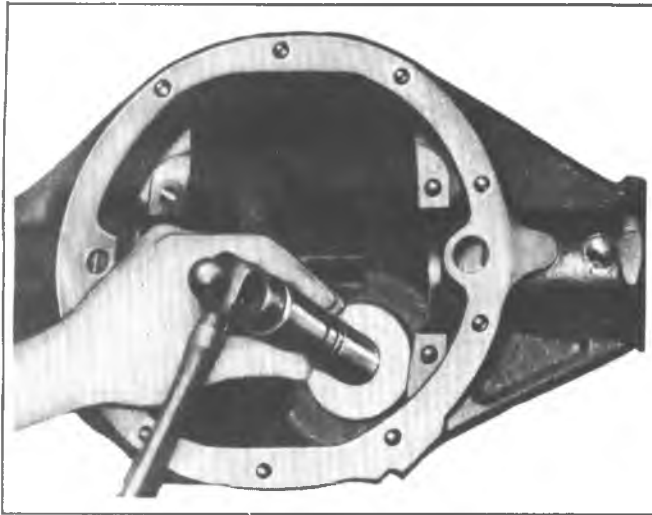

Fig. 16B—Installing Pinion Rear Bearing Cup
6. Install the rear cup, with the large end against the bore shoulder, using Installer J-8608 for 8-1/2" ring gear and J-0270-14 for the 8-7/8" ring gear as shown in figure 16B.